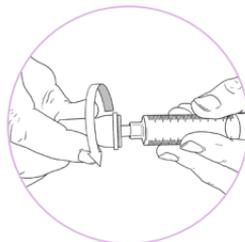

Fig 1. Connection of Orbis to saline syringe.
- 1 Verify that you have correct intravenous (IV) access and prepare the IV hub for connection to the device OR prepare a compatible 20-22G needle.
- 3 Prepare a 10mL prefilled saline syringe per the manufacturer's recommendations. Connect the Orbis to the 10mL prefilled saline syringe [Fig 1].